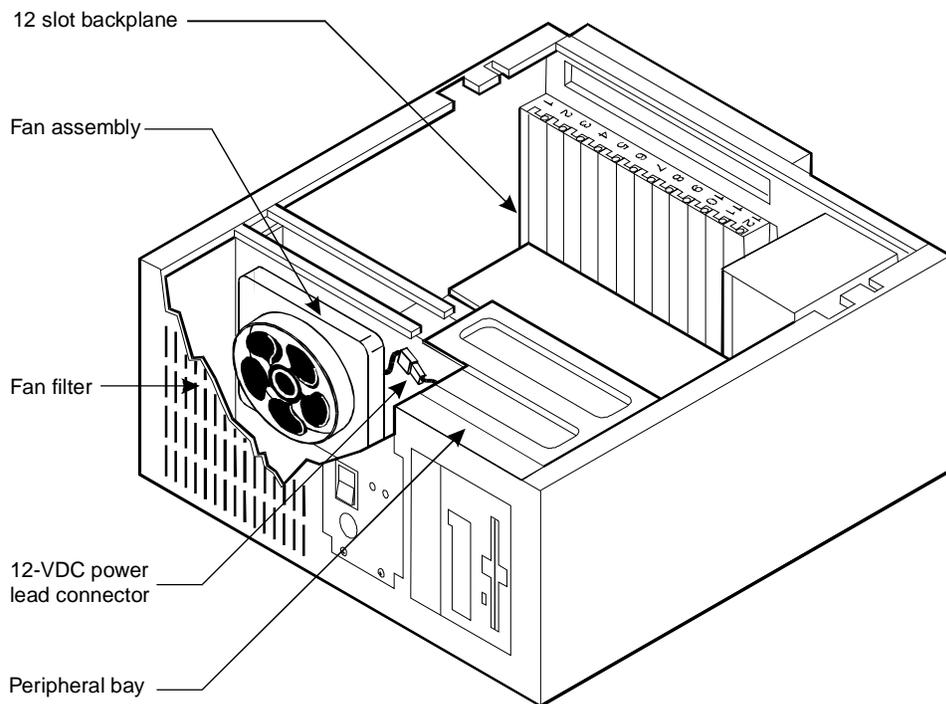

Figure 7-4. MAP/40 or 40s Internal Layout
The second fan (406900126) is located in front of the card cage, behind the front cover panel. It is mounted on a support plate to force airflow through the MAP/40 or 40s chassis, across the circuit cards as illustrated in Figure 7-4.
5. Remove the two Phillips screws that hold the fan in position (Figure 7-4).
6. Unplug the 12-VDC power lead connector (Figure 7-4).
The card cage fan unit must be installed so that air travels through the mounting plate hole towards the card cage area, as shown in Figure 7-4. Locate the air-flow direction indicators to ensure that the fan is properly mounted.
The 110/220-VAC power supply is located in the upper right corner of the MAP/40 or 40s as shown in Figure 7-4.